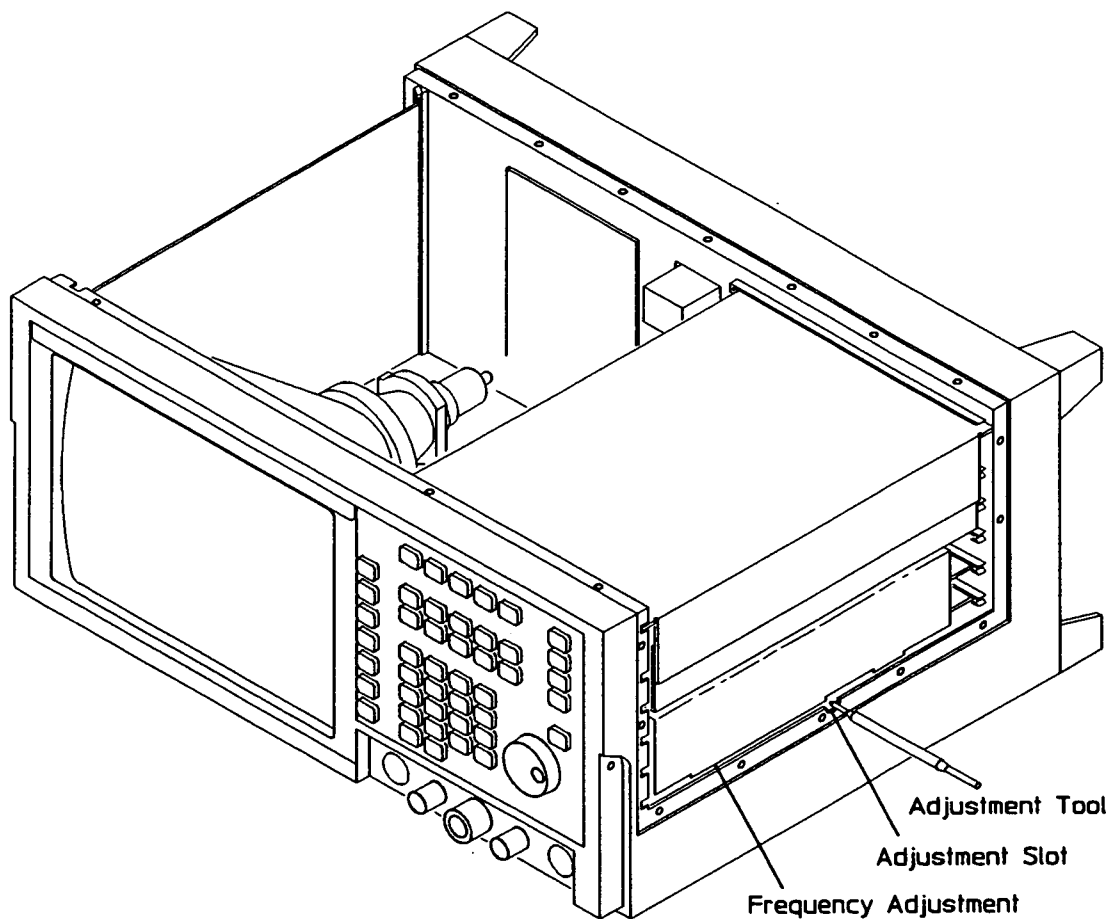

Figure 2-74. A8 Sensor Check Source Adjustment Location
10. Adjust the A8 Sensor Check Source for a reading of $+10 \text{ dBm} \pm 0.5 \text{ dB}$ on the power meter. The location of the adjustment is shown in figure 2-74.